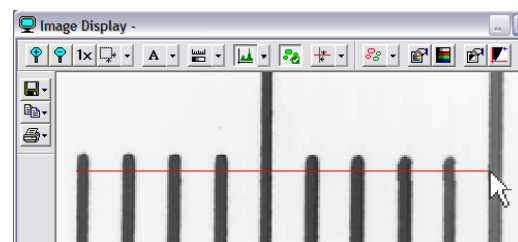

fig.2
2. Select the camera and set it to monochrome from the top-right drop-down list (**fig.2**).